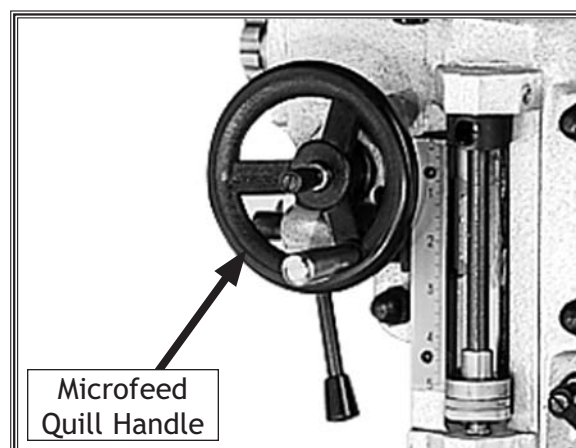

Figure 14. Microfeed quill handle.
1. Slide the handle on the shaft as shown in Figure 14.